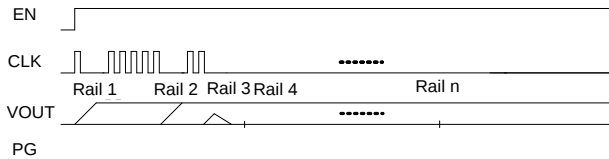

Figure 8: Soft Start during PMIC Error when CLK Pulls Down (CLK Pausing)
- If **CLK_ON_ERROR_PAUSE_EN = 1**, the initiator/target PMIC pulls the CLK pin down if any error occurs during any power rail's soft start (see Figure 8 on page 19).